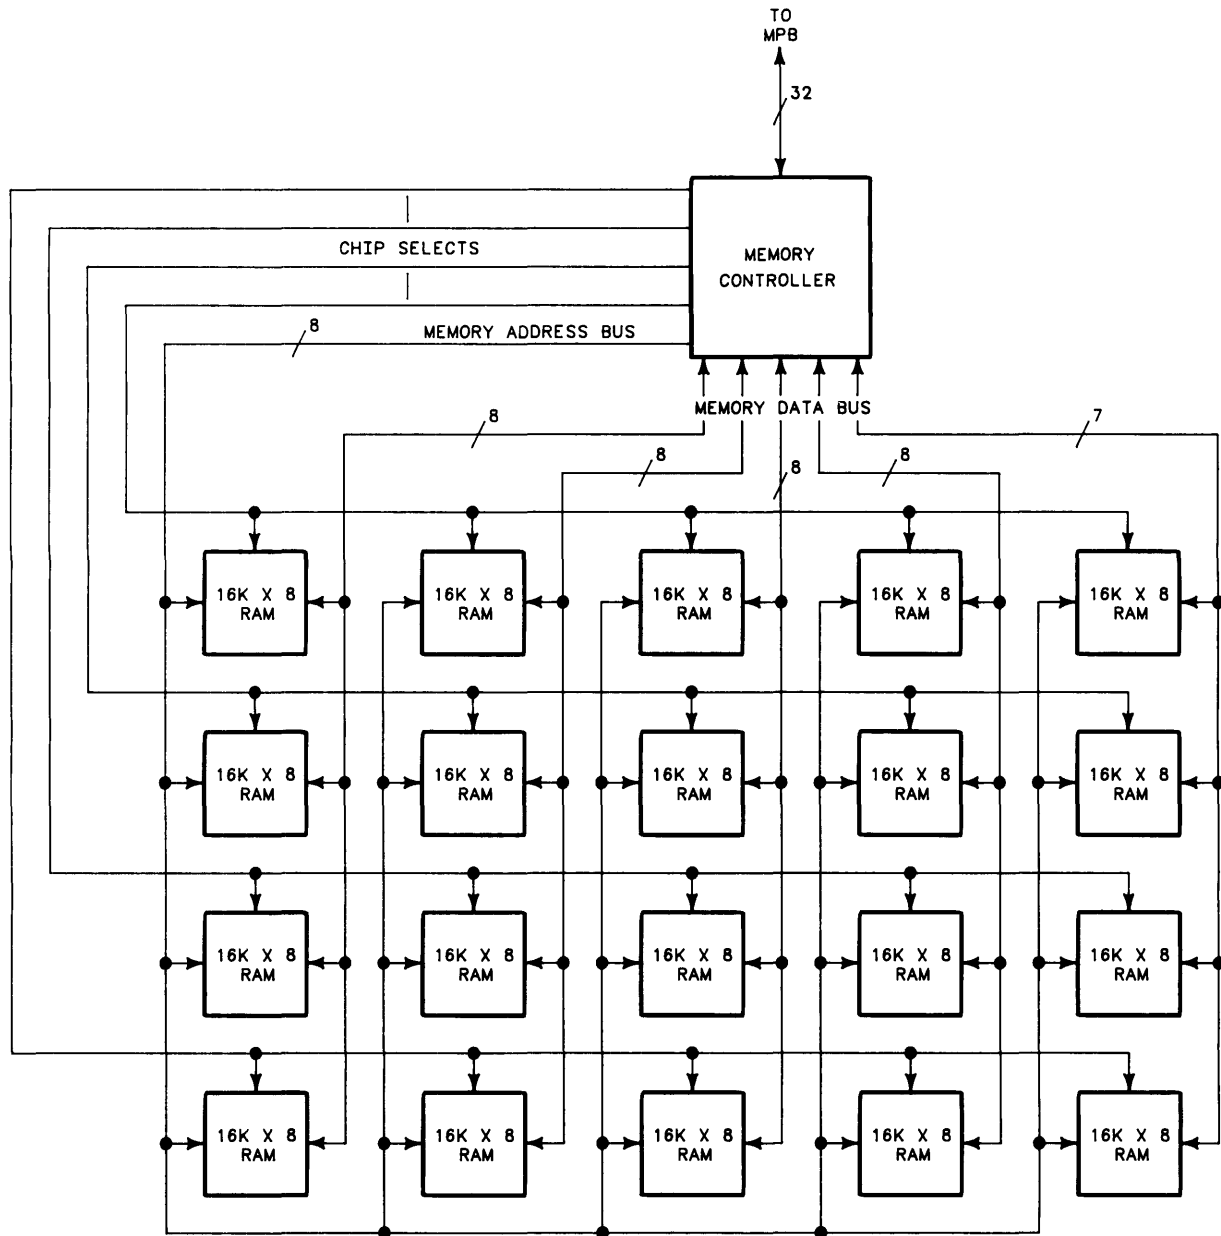

Figure 2-5. 256K RAM Finstate Block Diagram
Up to 10 RAM boards can be configured in a processor stack. Each board has a Memory Controller (MC) and 256K, 512K, or 1 Megabyte of RAM. This section will cover the theory of operation of the 256K board (Figure 2-5), and following sections will cover the other RAM boards.